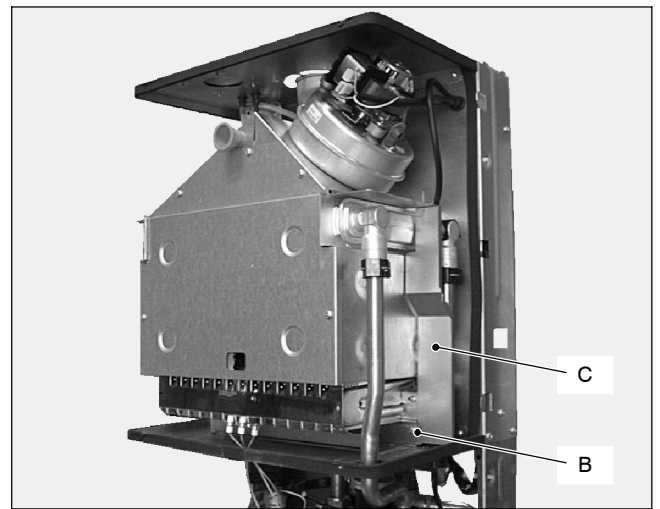

Fig. 2
- 1b For model M90E.28S and M90E.32S remove the screw *B* and the plate *C* (Fig. 2).